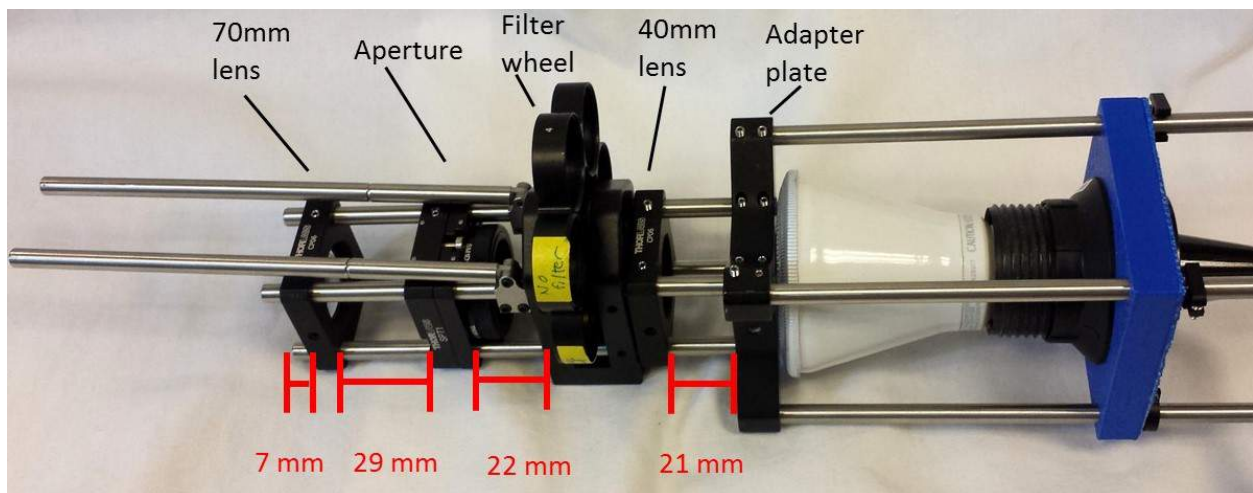

Figure 28: Finished Kohler illumination arm
18. Adjust the aperture so that is 22mm from the filter wheel before tightening the setscrews (see Figure 28).
19. Adjust the 75mm lens so that it is 7mm from the end of the posts before tightening the setscrews (see Figure 28).